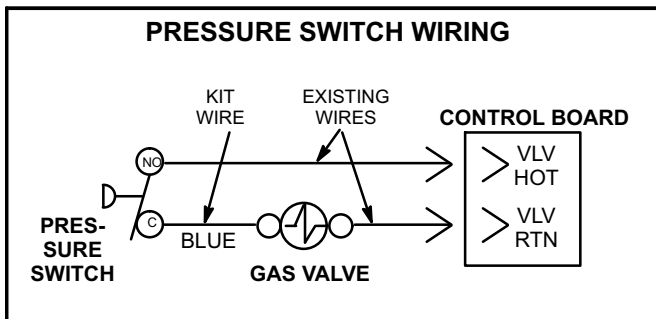

FIGURE 9
- 1- Connect the insulated end of blue wire (provided) to pressure switch terminal "C" (common). Connect the other end of the blue wire to the gas valve terminal. Connect the blue wire from the control board to "NO" terminal on the pressure switch. Reconnect the yellow wire from the control board to the other terminal on gas valve. See figure 9.